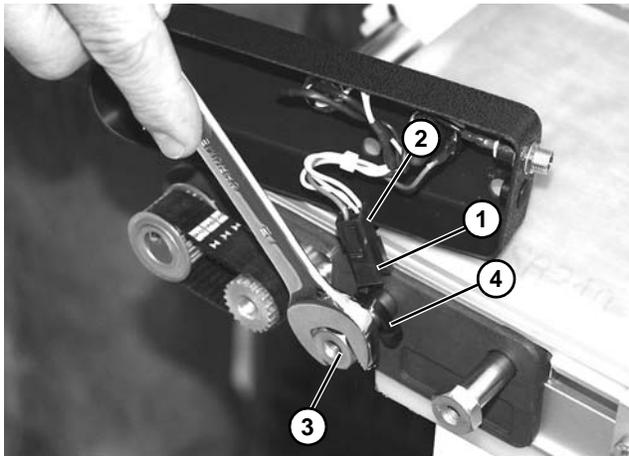

Figure 61
3. Unplug motor connector (Figure 61, item 1) from cover wiring connector (Figure 61, item 2).
4. Remove hex standoff (Figure 61, item 3) and remove tie strap (Figure 61, item 4) and wiring harness from hex standoff.